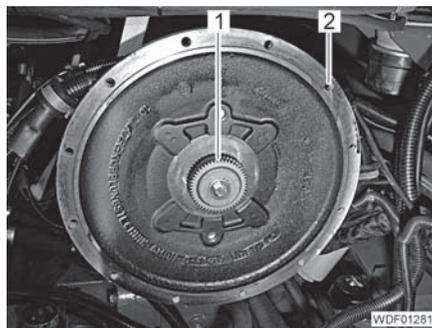

Fig. 37 Clutch bell
- Swivel the engine into the clutch bell so that the holes (Fig. 37,2) match up exactly with the threads on the engine.
- Rotate the engine on the fan wheel until the clutch hub (Fig. 37,1) engages in the clutch PA flange.